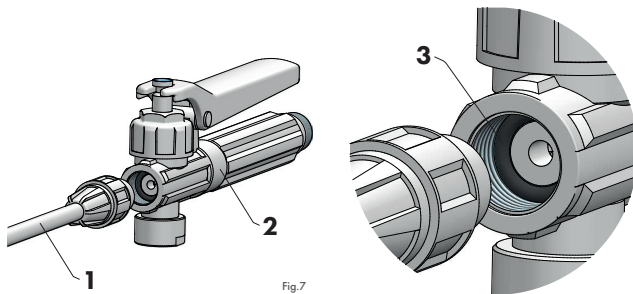

Fig.7
Check that the piston valve body (Fig. 7/item 2) is equipped with an O-ring (Fig. 7/item 3) and connect it with the lance (Fig. 7/item 1) by screwing in to obtain a tight connection.